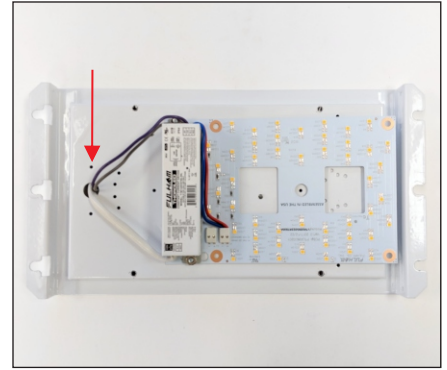

Figure 2
2. Pass the DC Engine (A) input power wires and dimming wires (if available) through the luminaire wire hole. See Figure 2.